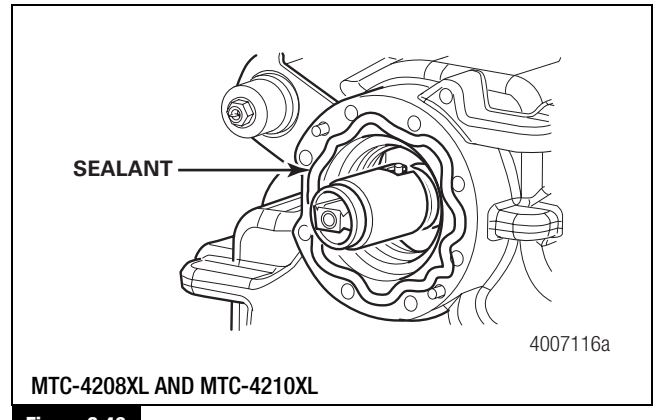

Figure 6.40
4. Apply a 0.125-inch (3.175 mm) bead of Loctite® 518 sealant around the rear housing face. Figure 6.40.